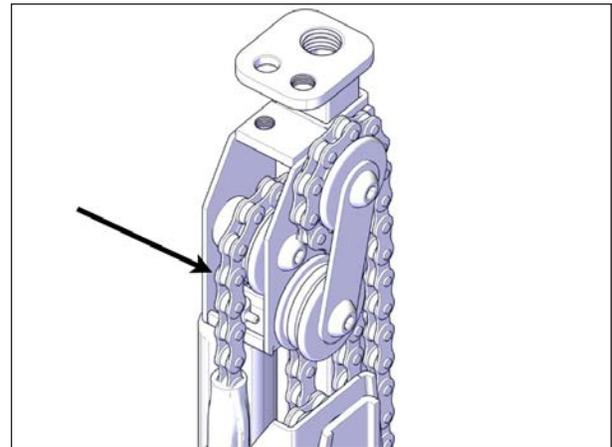

FIGURE 75: JACK CHAINS
8. Inspect the chains for signs of deterioration. If this is the case, call your local Covana dealer, see Figure 75.